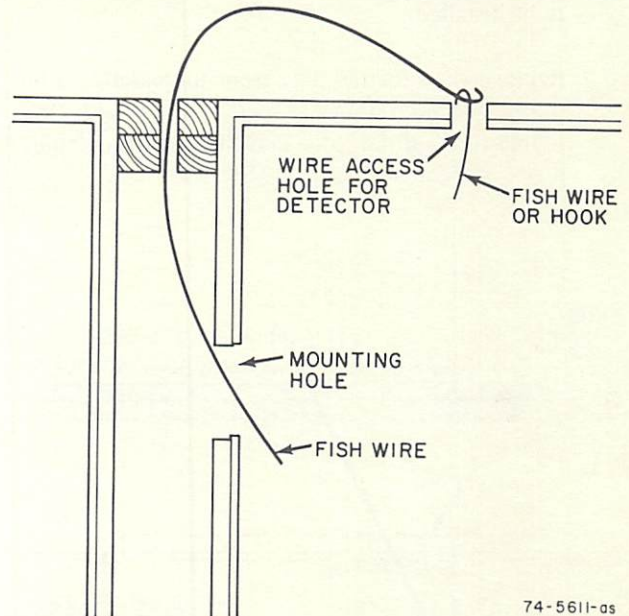

Fig. 45—Fishing Wire Without Access to the Attic.
3. Use two fish wires, one through the ceiling hole and one through the hole in the wall (Fig. 45).